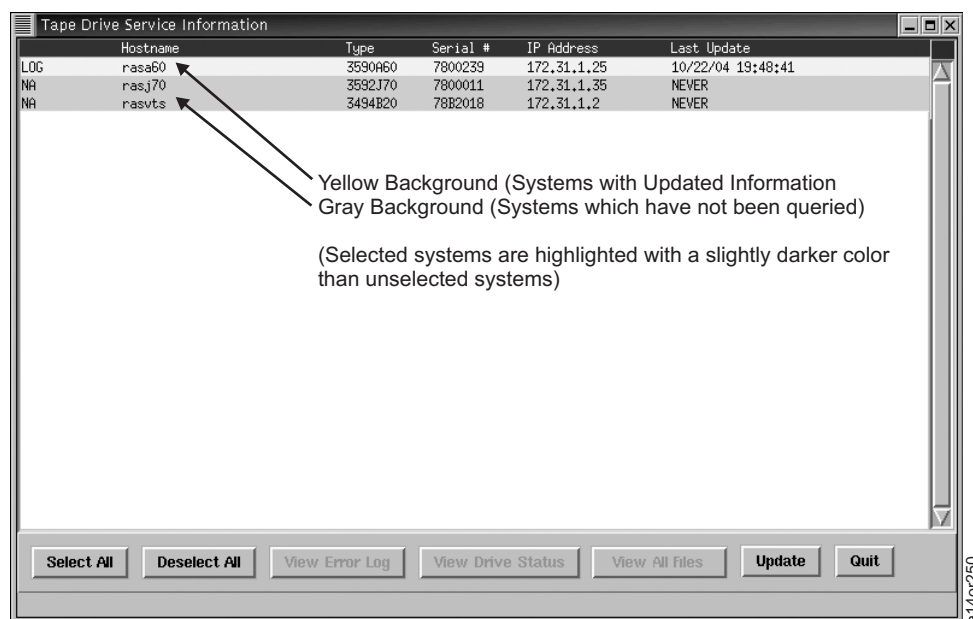

Figure 3-13. Tape Drive Service Information – Main Screen
1. See Figure 3-13. After you complete the System Console configuration, the tool to update and review tape drive service information for attached systems is automatically enabled. Right click from anywhere in the Desktop to view the Main Menu shown in Figure 2-43 on page 2-37.
3. The Figure 3-13 lists all systems attached to the System Console which might have tape drive information available. The Main Screen shows a summary of the update status of the systems attached to the System Console as of the DATE and TIME INDICATED in the right column. The systems listed are highlighted according to the following color scheme:
- Each report may be viewed by selecting one of the systems listed on the Main Screen (Figure 3-13 on page 3-12), then clicking **View Error Log** or **View Drive Status**. Systems may be selected by pointing to the system list entry, and clicking the left mouse button once. (Clicking the entry a second time deselects the system.)
- From the Main Screen in Figure 3-13 on page 3-12, select **Quit** to quit.